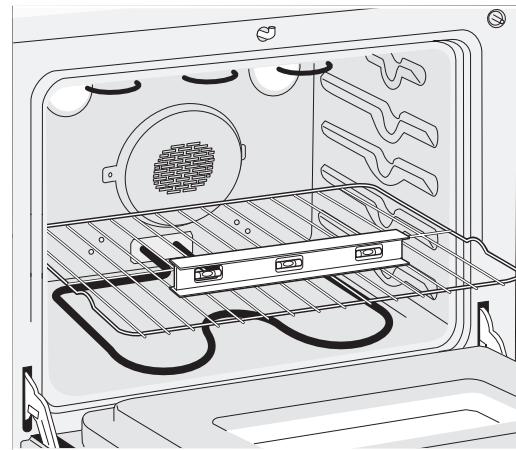
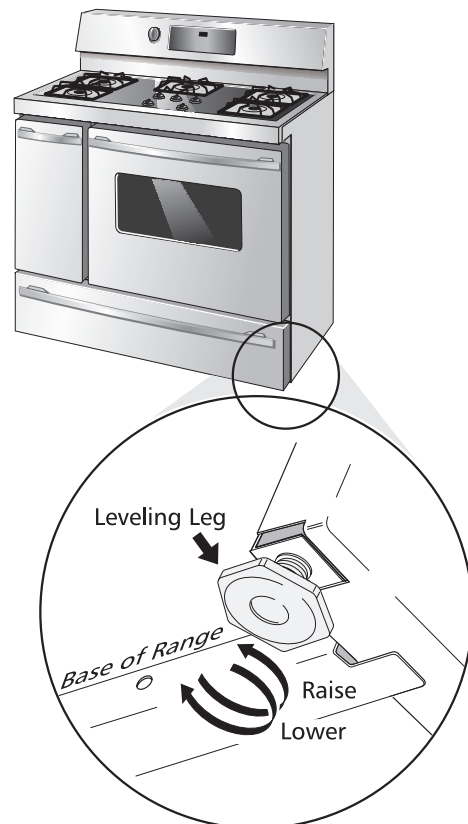

Figure 10
Figure 14
2. Place a level on the rack (see fig. 10). Take 2 readings with the level placed diagonally in one direction and then the other. Level the range, if necessary, by adjusting the 4 leveling legs with a wrench (see Figure 14).
4. Level range if necessary, by adjusting the 4 leveling legs with a wrench. (See Figure 14 below.) A minimum clearance of 1/8" (3.2 mm) is required between the bottom of the range and the rear leveling legs to allow room for the anti-tip brackets.